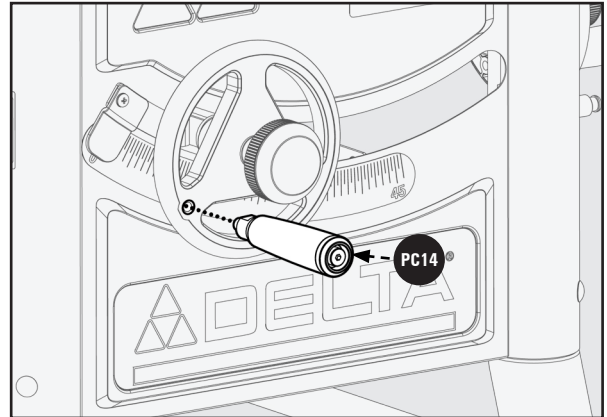

Figure 16
1. Insert one Handle **PC14** to the Elevation Hand Wheel located in the front of the Saw, as seen in Figure 16.